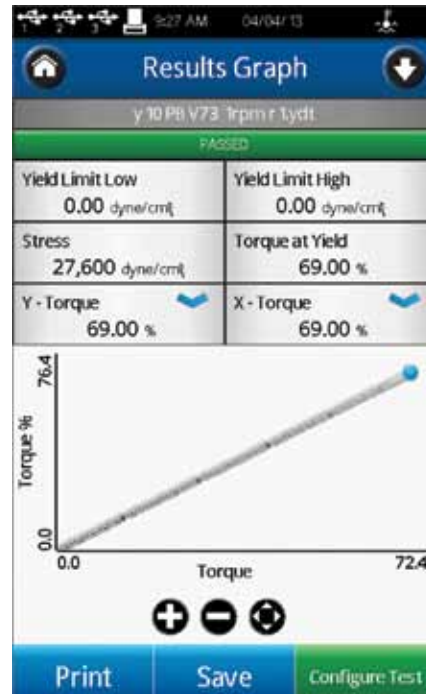

Figure IV-10
**Graph:** Display the final data point and graph (see Figure IV-10). The graph axis (X and Y) can be changed by selecting the blue drop down arrow in the appropriate data field. Zoom and reset controls are indicated under the X-Axis.